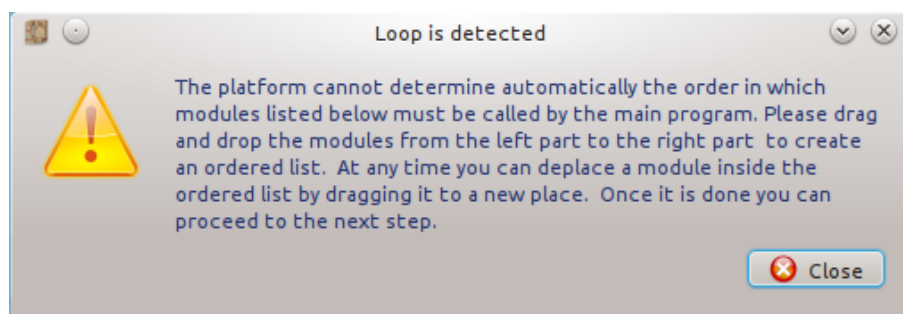

Figure 31: “Ordering” tab: warning message concerning the presence of a loop between modules
**Case of the presence of loops between modules** In this case, an alert message appears when the “Ordering” tab is displayed (see figure 31).